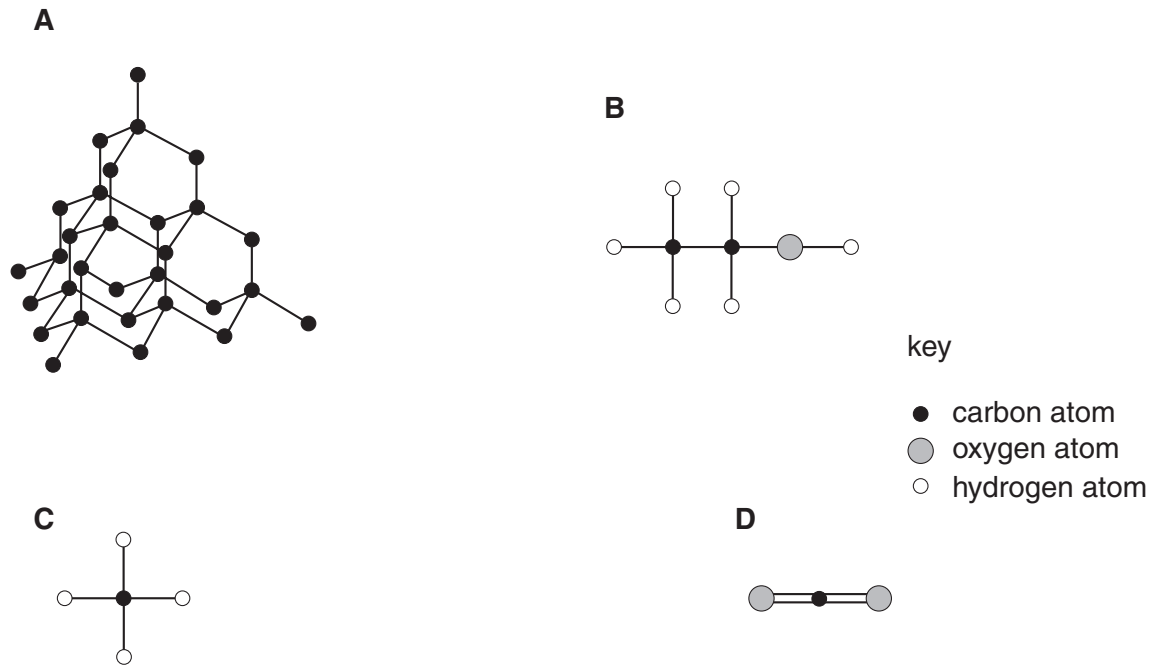

Fig. 3.1
- 3 (a) Fig. 3.1 shows the structure of four substances, **A**, **B**, **C** and **D**, which contain carbon atoms.